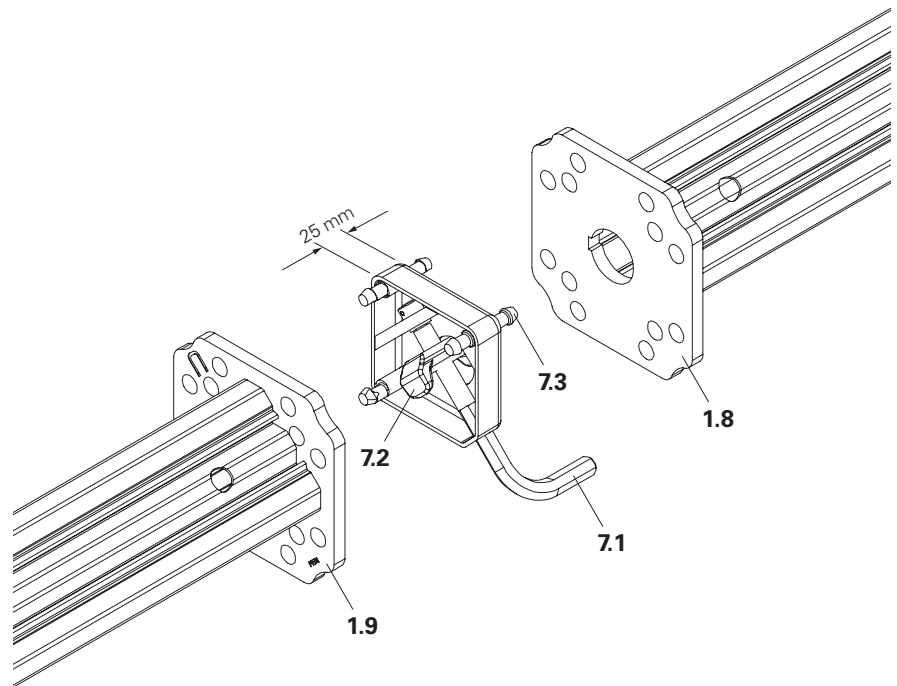

Fig. A2.01
2. Place the second MULTIPROP MP (1) on the centring pins of the Connector-2 MP MV (7).
- Engage clamping jaws (7.2) in the central hole of the prop. (Fig. A2.01)
- The MULTIPROPS MP (1) are connected.